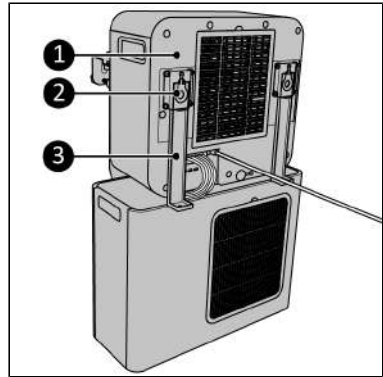

Figure 32.
6. Attach the top caravan brackets (Figure 32, pos. 3) to the indoor unit (Figure 32, pos. 1) by using the rubber hooks (Figure 32, pos. 2).